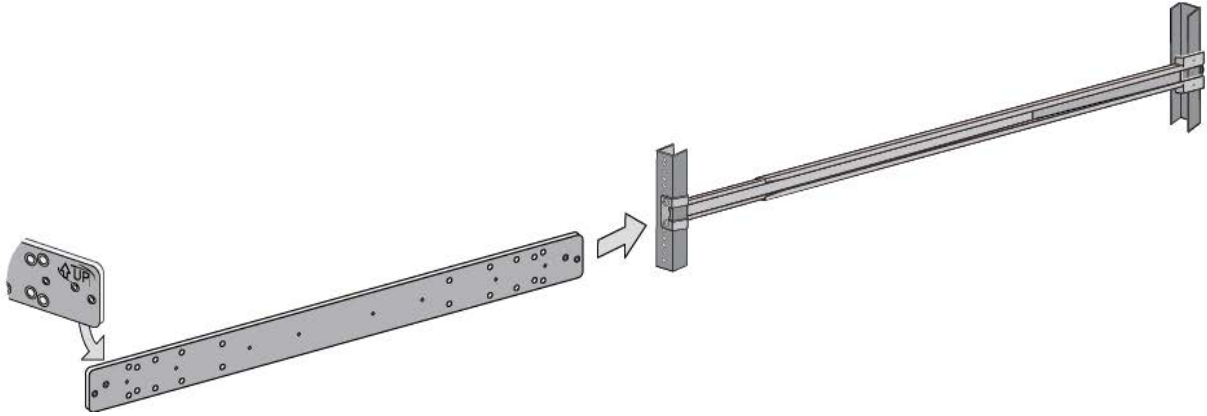

Figure 47. Inserting an Inner Rail into an Outer Rail
1. Slide one of the inner rails into an outer rail. Be sure that the UP arrow on the inner rail is pointing up. Refer to Figure 47 on page 153.